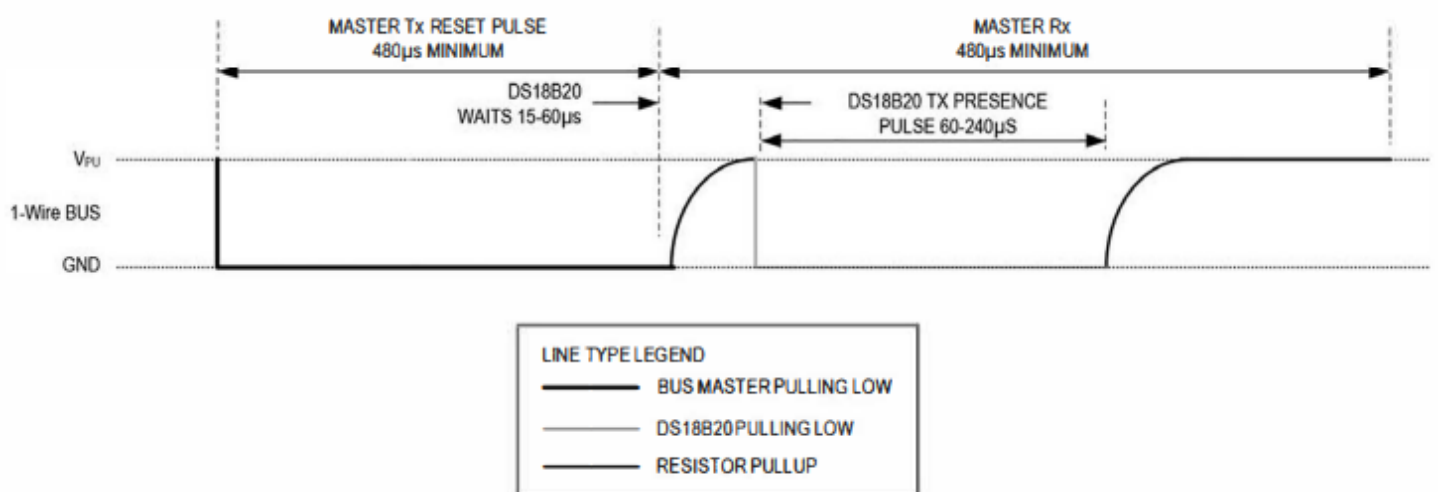

Figure 15. Initialization Timing
All communication with the DS18B20 begins with an initialization sequence that consists of a reset pulse from the master followed by a presence pulse from the DS18B20. This is illustrated in Figure 15. When the DS18B20 sends the presence pulse in response to the reset, it is indicating to the master that it is on the bus and ready to operate. During the initialization sequence the bus master transmits (TX) the reset pulse by pulling the 1-Wire bus low for a minimum of 480µs. The bus master then releases the bus and goes into receive mode (RX). When the bus is released, the 5kOhm pullup resistor pulls the 1-Wire bus high. When the DS18B20 detects this rising edge, it waits 15µs to 60µs and then transmits a presence pulse by pulling the 1-Wire bus low for 60µs to 240µs.